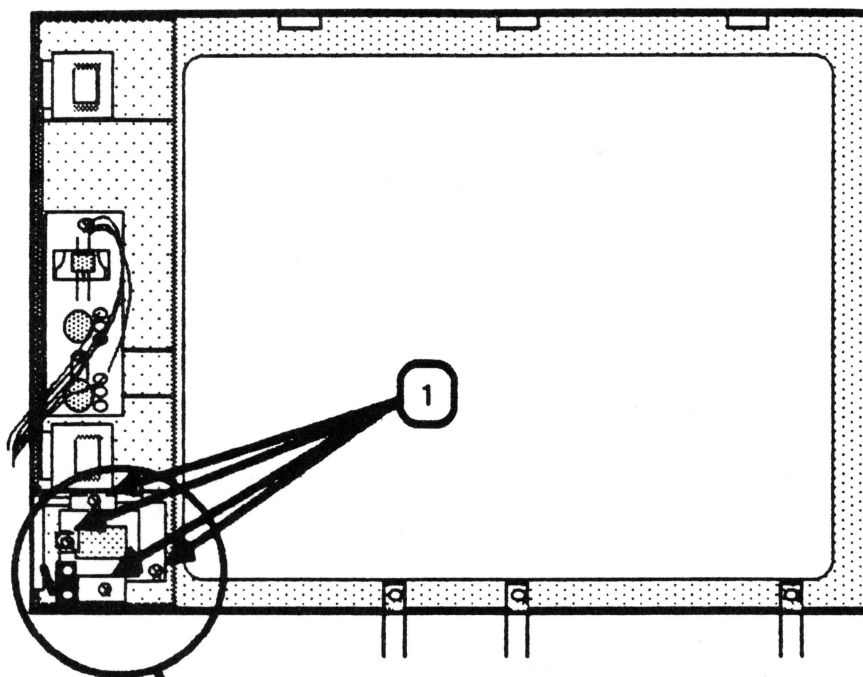

FIGURE 23
4. Locate the plastic mounting plate circled in Figure 23. Remove the four Phillips screws (Figure 23, #1).